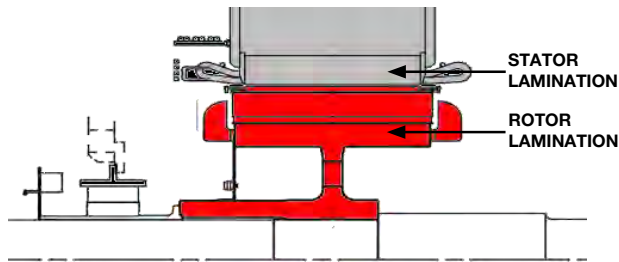

Figure 10-2: Magnetic Center
Magnetic center is a reference position which is determined as the location of the rotor in the stator where no axial forces are generated by the magnetic fields. The motor has been assembled at the WEG EM factory so that the rotor will operate at the magnetic center when the shaft is axially-centered between the bearings as shown in Figure 10-2. The magnetic center may be accurately verified using the following procedure.
- Using two, small, parallel rods; touch the outermost stator lamination and simultaneously the outermost rotor lamination, as shown in Figure 10-2.